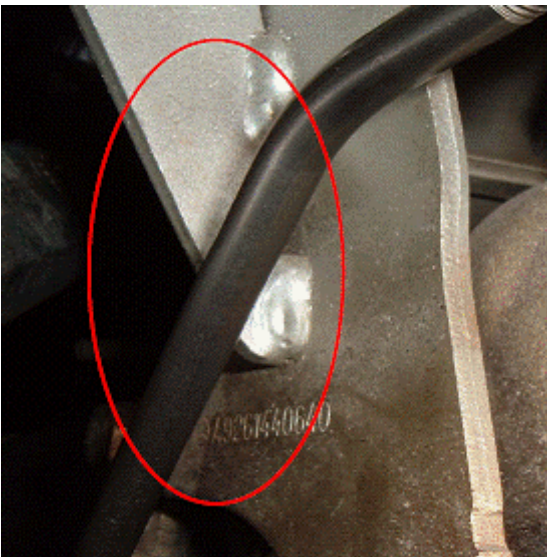

Figure 3 – Clearance Check
7. Check for adequate clearance between the operating rod and the bracket (see Figure 3).